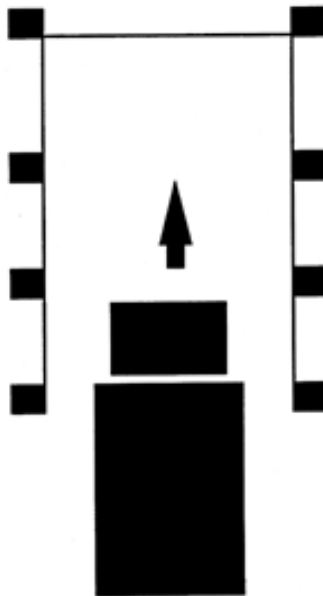

Figure 7-1 Forward Stop
These exercises are shown in Figures 7-1 through 7-3.
**Forward Stop** – You will be asked to drive forward between two rows of cones and bring your vehicle to a complete stop as close as you can to the exercise boundary marked by an end line or set of cones (without going beyond the line of cones). See Figure 7-1.